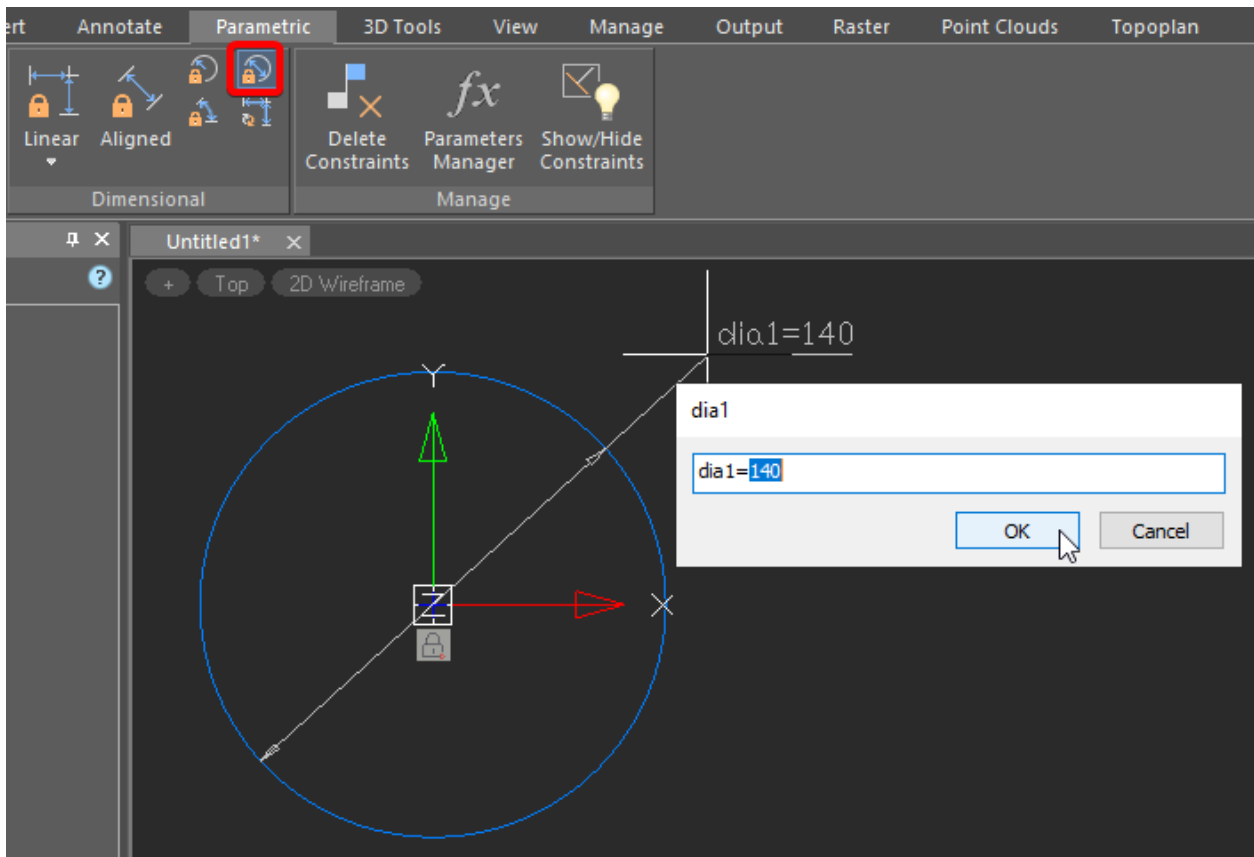

Fig. 6. Specifying the circle size.
2.4. On the **Parametric** tab, select **Diameter** and specify the constructed circle. In the window that has appeared, enter the value for the diameter: $\varnothing 140$. Click **OK** to confirm (Fig.6).